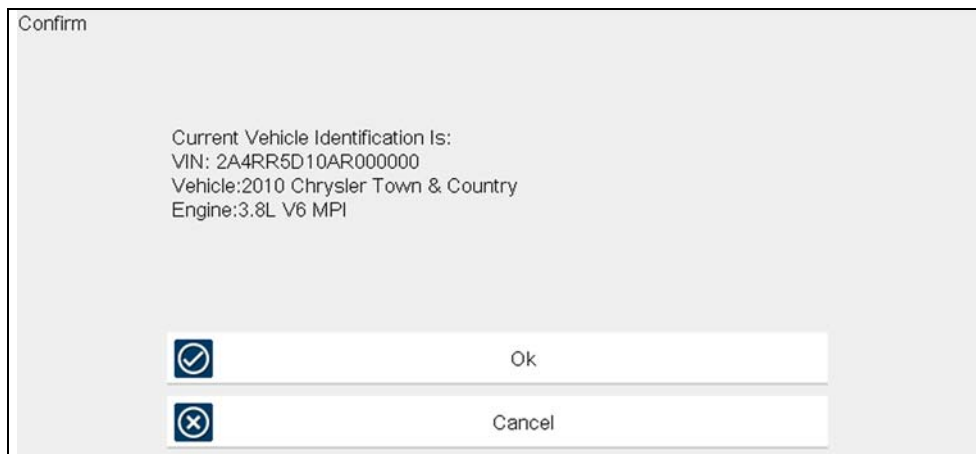

Figure 6-3 Vehicle confirmation screen
- a. Instant ID may occur, as indicated by an audible "beep" approximately 6 seconds after boot-up. Select the **Scanner** icon, then wait for the vehicle confirmation screen (Figure 6-3) and select **OK** to continue. Then proceed to **step 6**. See Instant ID on page 29, for additional information about this function.
b2.) Once the vehicle has been identified, the vehicle confirmation screen displays (*Figure 6-3*). If the vehicle information is correct, select **OK** to continue, then proceed to step 6.